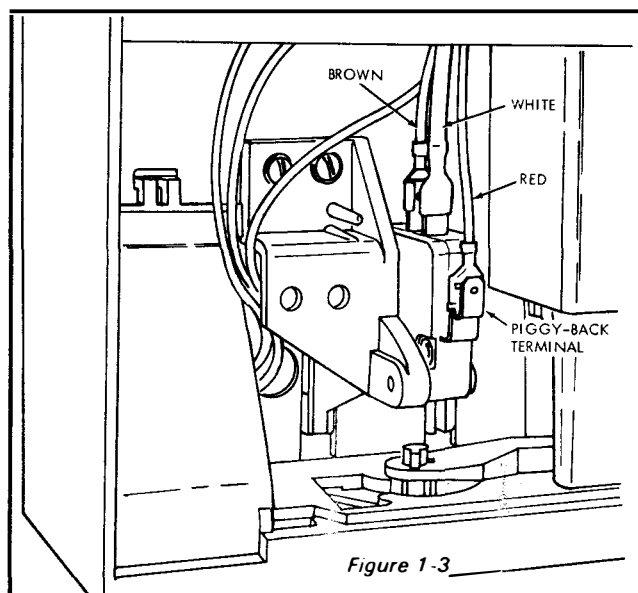

Figure 1-3
4. Vend price 25¢ and under. The S75-9800B is wired to accept quarters when the payout tubes are empty. If you do not want to accept quarters when the payout tubes are empty, remove the back coverplate and disconnect the white wire from the piggy-back terminal on the Common (red wire) of the tube empty switch. Reconnect this wire to the center, Normally Open, terminal of the same switch. (Figure 1-3) The quarter C.R.E.M. will now de-energize when the nickel payout tube is empty.